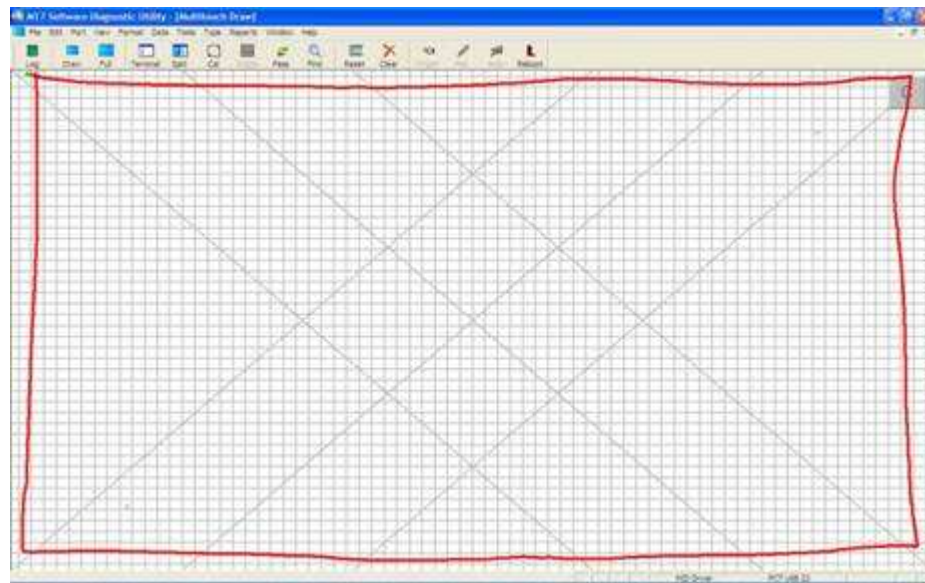

Figure 7: Box Drawing
6.2.4.3. For PCT using one finger, draw a box shape around the perimeter of the sensor. The drawing should occur between 0.5 – 1” in from the outer border of the sensor. There should be no drop outs, breaks in the line, or false touches if the finger has remained in contact with the sensor. See Figure 7